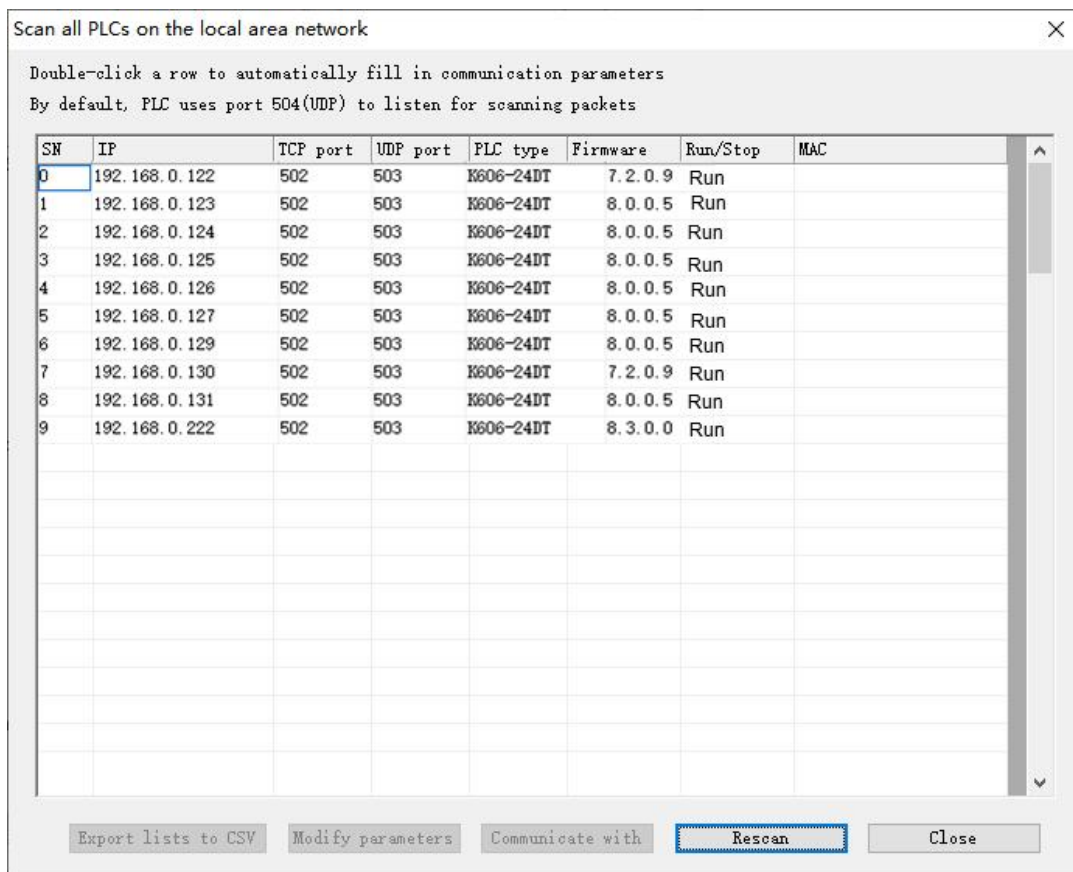

Figure 2
2、 Scan network: In the same local area network, you can scan all devices in the network through the scan network function. This function supports scanning across network segments. as shown in figure 2: